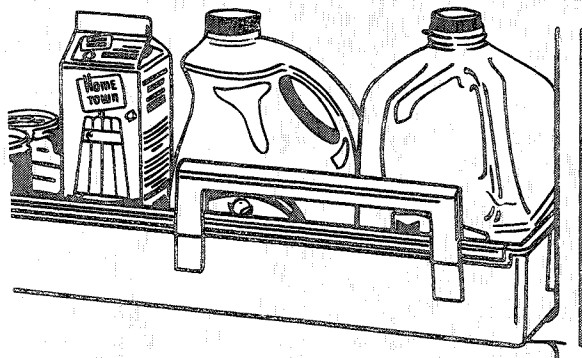

Figure 24
- To remove, rotate away from you and lift up. See Figure 24.